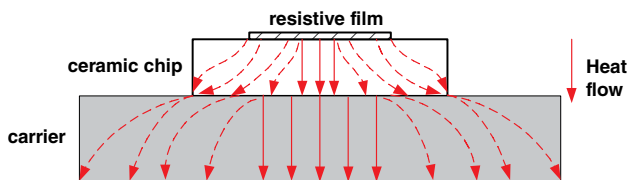
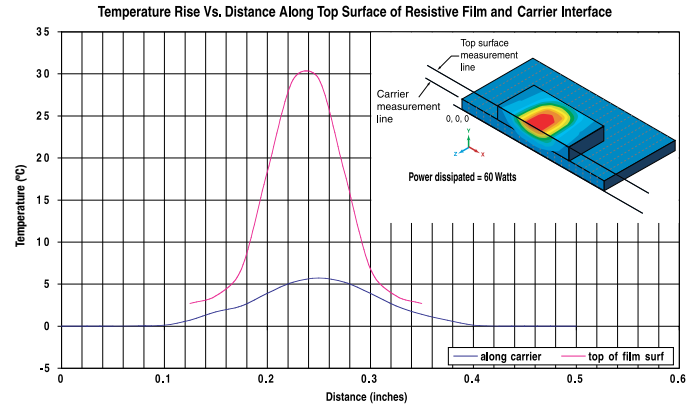
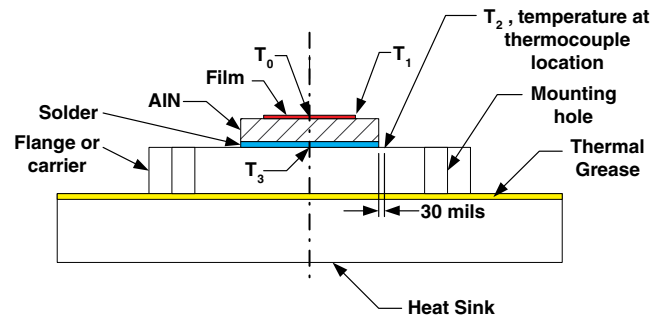

Figure 10. Heat flow around a mounted chip resistor
Figure 11: Computer simulation of isotherms around mounted chip resistor
Figure 12: Temperatures at a number of points on and around a ground plane-mounted resistive chip
Before we can do a thermal design, we must first decide on exactly what we shall mean by “power rating” for a chip device. **Figure 10** illustrates the heat flow around a mounted chip resistor. The resistive film, assumed to have constant power dissipation over its surface, behaves as an isoflux boundary, i.e., a source of uniform heat flux, rather than the isothermal boundary used in the derivation of equation (2). Were the film to completely cover the chip, the isoflux case would approach the isothermal case, but absent that condition the heat spreads out as shown.
The thermal resistance between two points is defined as the temperature difference between those points divided by the heat flow (typical units are degrees Centigrade/Watt). It is analogous to electrical resistance, with temperature corresponding to voltage and heat flux to current. **Figure 10** indicates that there is vertical as well as lateral heat flow in both the ceramic chip and the carrier it is mounted on. This implies that the system must be represented as a lattice network of thermal resistances rather than a single thermal resistance.
(The latter can characterize only the kind of one-dimensional heat flow assumed for equation (2).) **Stated alternately, the temperature will vary laterally along the film and, also, laterally along the mounting surface.** This is illustrated in **Figure 11**, which was made using a “Finite Element Method” (FEM) computer simulation. In actuality, a three-dimensional latticework of resistors is needed to describe a mounted resistive chip, and there is temperature variation along all three dimensions.
The above considerations bear importantly on how a chip is designed and characterized for power handling and exactly how confirming measurements are made. **Figure 12** indicates temperatures at a number of points on and around a mounted chip: (a)  $T_0$ , at the film centroid; (b)  $T_1$ , at the film edge or corner; (c)  $T_3$ , on the mounting surface directly under the film centroid; and (d)  $T_2$ , on the mounting surface 30 mils away from the chip edge. We can make the following qualitative observations:
An ideal heat sink has infinite thermal conductivity and, because of this, the infinite thermal conductivity,  $T_2$  would equal  $T_3$  in Fig. 12. From Fig. 10 and Fig. 11, this clearly is not the case for any real mounting surface; in fact,  $T_3 > T_2$ .
One strategy for defining power rating might be to measure  $T_3$  directly – or deduce it from a measurement of  $T_2$  and a computer FEM model – and then specify performance as if an ideal heat sink were held everywhere at that temperature. By slicing a mounted resistor in half along its longitudinal axis – in **Figure 12**, perpendicular to the plane of the paper, down the centerline – we were able to take advantage of the lateral heat-flow symmetry to measure  $T_2$  and  $T_3$  for chips of several sizes and input powers. (The slice plane is an adiabatic boundary, i.e., no heat flows across it.) Results of such measurements are presented in **Table 2**. All chips were 40 mils thick and all measurements were made on a silver-plated high-conductivity copper mounting surface (see the table for more information).
- Next, since our carrier does not have infinite thermal conductivity, we must specify the exact location – **T2 in Figure 12** – at which we hold the ambient temperature constant. **Typically, we choose this as 30 mils from the chip edge along its lateral centerline** – an arbitrary, convenient spot at which to solder a small thermocouple.
Let us assume a perfectly conducting mounting surface in **Figure 10**, i.e., a surface along which there can be no lateral temperature variation. Then to calculate the total thermal resistance from the film to the mounting surface, one would compute the one-dimensional resistance of the chip with the film occupying its entire surface and then add the constriction resistance to account for the lateral constriction of the heatflow. (Note, from the top down the heat spreads and so the term “spreading resistance” is frequently used, but from the bottom up the heat flow constricts.) There are several expressions available in the literature for the constriction resistance of heat sources mounted on rectangular channels (“flux tubes”) with adiabatic walls, i.e., heat-producing films on chips that have no appreciable heat conduction perpendicular to their sidewalls. One formula that yields constriction resistance based on an average film temperature is5.